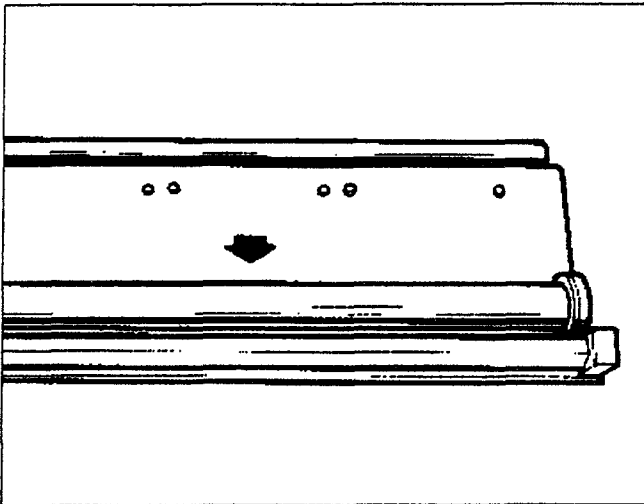

Fig.55
4. Clean and grease the toolholder slide cylinder once a month (Fig.55).